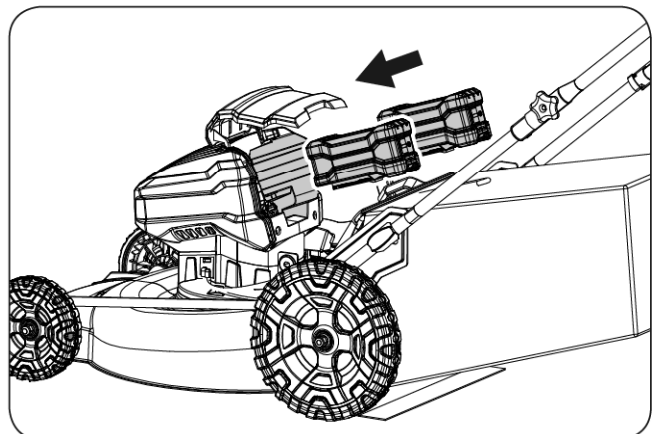

Figure 6
2. Align the two batteries with the battery port. Make sure the battery release button snaps in place and the batteries are fully seated and secure in the mower before beginning operation. (See **Figure 6**)